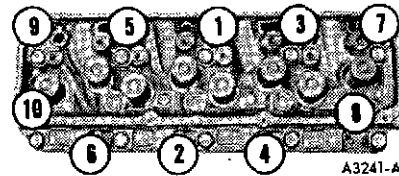

FIG. 42 Cylinder Head Bolt Torque Sequence
2. Position new cylinder head gaskets on block over dowels. Do not apply sealer to head gasket surfaces. Place cylinder heads on block and install attaching bolts (longer bolts in lower row of bolt holes). Tighten all cylinder head attaching bolts in sequence (Figure 42) in three steps: first to 75 ft-lb, then to 105 ft-lb, and finally to specifications. **When this procedure is used, it is not necessary to re-tighten bolts after extended operation.**